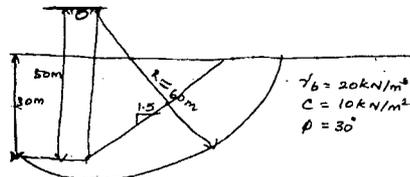

Fig. 15 (a) slope with a failure surface that has its centre at O and a radius of R. (16)
- (b) (i) Derive a relationship between the principal stresses at failure using Mohr-Coulomb failure criterion. (10)
- (ii) A direct shear test was performed on a 6 cm × 6 cm sample of dry sand. The normal load was 360 N. The failure occurred at a shear load of 180 N. Plot the Mohr strength envelope, and determine  $\phi$ . Assume  $c = 0$ . Also determine the principal stresses at failure. (6)
15. (a) Using the Swedish method of slices, determine the safety factor of the slope given in Fig 15 (a) for the failure surface that has a radius R and its centre is located at 'O' as shown in the figure.